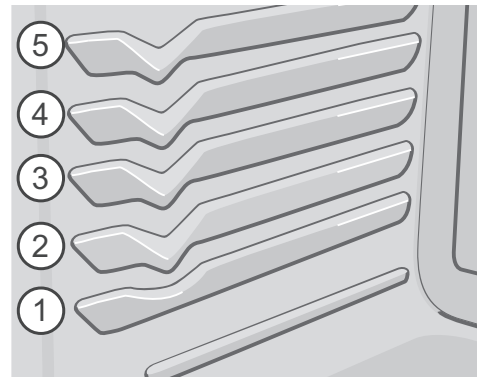

Figure 5: Rack positions for raised bake and hidden bake ovens
- When baking cakes using two oven racks, place racks in positions 3 and 5 (See Figure 5).